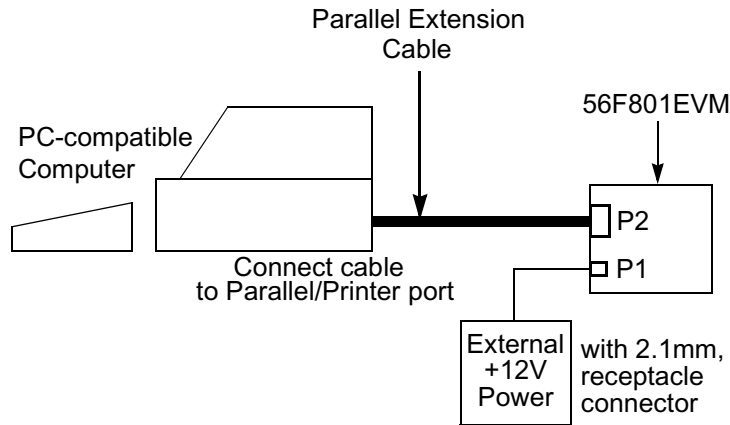

Figure 1-3. Connecting the 56F801EVM Cables
An interconnection diagram is shown in **Figure 1-3** for connecting the PC and the external +12V DC power supply to the 56F801EVM board.
2. Connect the other end of the parallel extension cable to P2, shown in **Figure 1-3**, on the 56F801EVM board. This provides the connection which allows the host computer to control the board.
4. Connect the 2.1mm output power plug from the external power supply into P1, shown in **Figure 1-3**, on the 56F801EVM board.